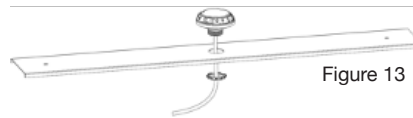

Figure 13
**Step 2:** Remove applicable knockout on the cover, install the sensor on the cover (Figure 13), and connect the wiring according to the instructions.